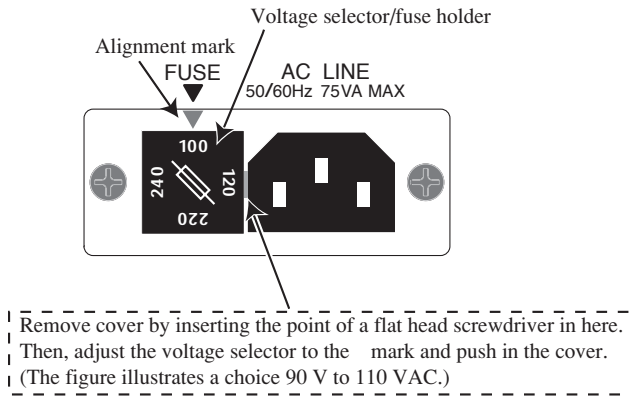

Fig. 1-3 Removing Fuse Holder
- 2. Remove fuse holder as shown in Fig. 1-3 "Removing Fuse Holder".